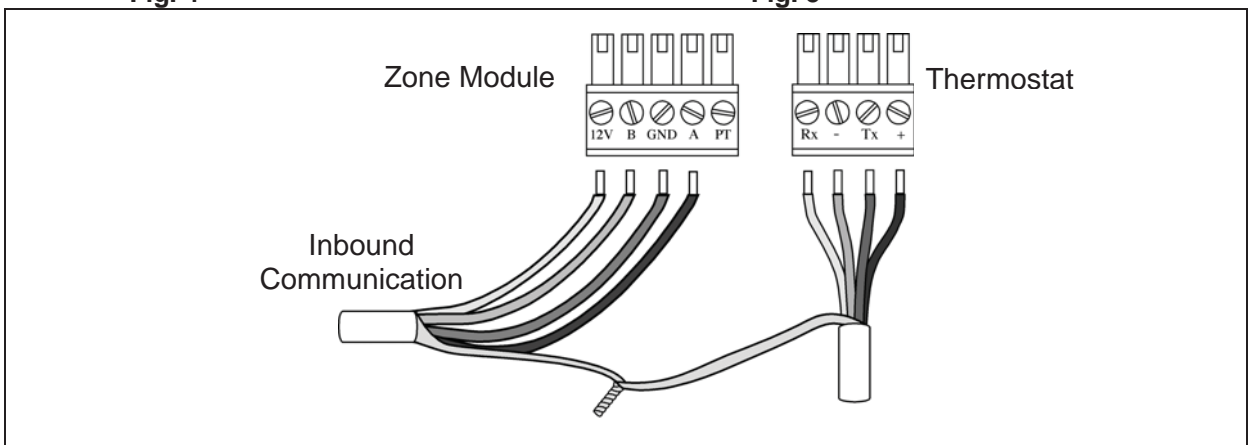

Fig. 6
- 4) **Module's Connection at the end of the bus** – Connect together the shields of the inbound communication cable of the Zone Module and the thermostat cable. Do not connect the shield to the Zone Module connector (Fig. 6).